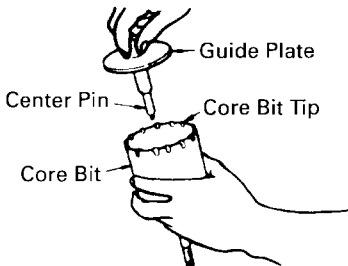

Fig. 19
- (3) Insert the center pin into the guide plate until it stops.
- (4) Engage the guide plate with the core bit, and turn the guide plate to left or right so that it does not fall even if it faced downward. (Fig. 19)